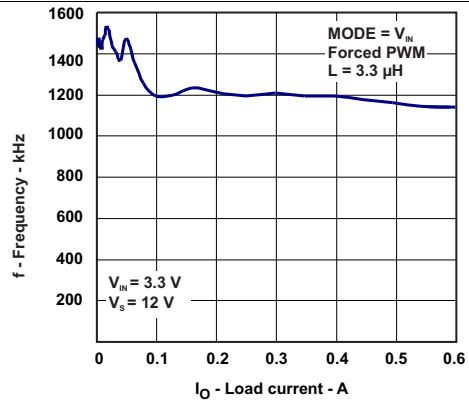

Figure 4. Frequency vs Load Current
• Changed "mA" to "A" in X-axis label for <a href="#">Figure 4</a> .....	6